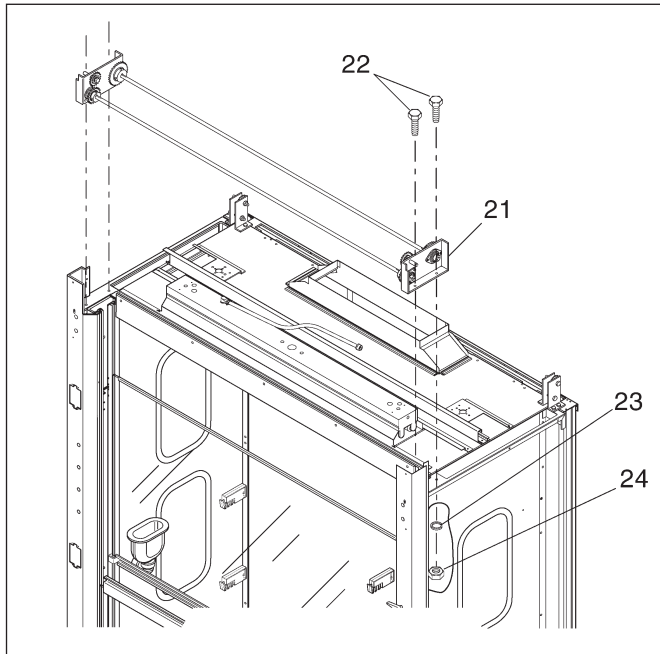

Figure 20
3. Locate the front sprocket support assembly (21). Orient the sprocket assembly with the small idler sprockets to the front of the unit.
4. Attach each end of the sprocket assembly to the top of the unit with two 1/4" x 1" hex head bolts (22), lock washers (23) and nuts (24).
**Refer to Figure 20**